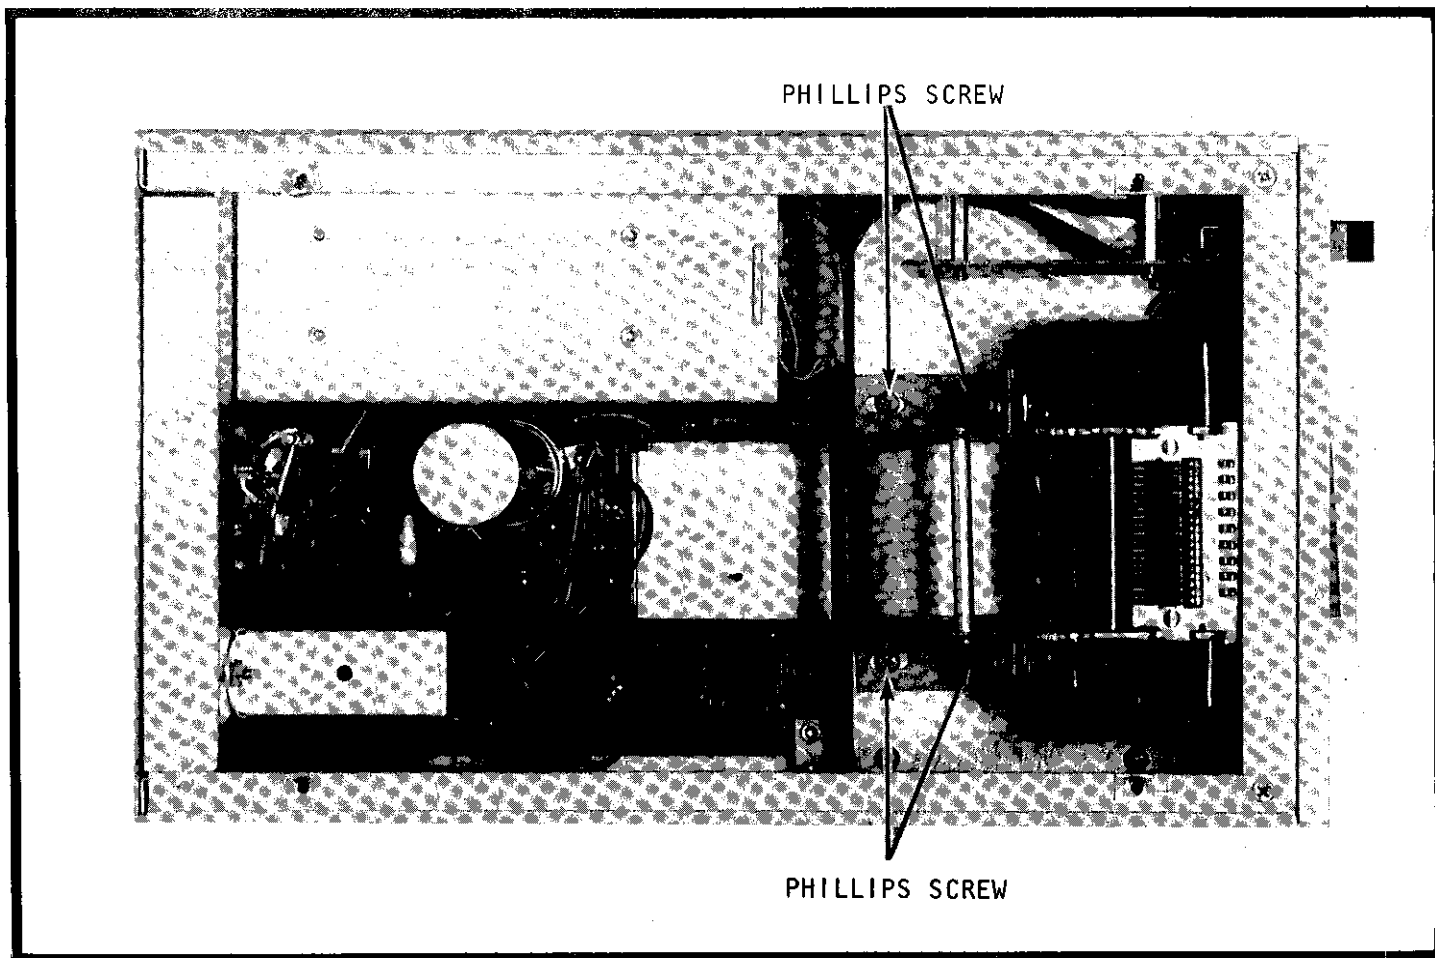

FIGURE 14. Top View of Printer With Cover Removed.
4. Loosen and remove four Phillips Head screws located on the base of the roll-paper holder as shown in Figure 14.